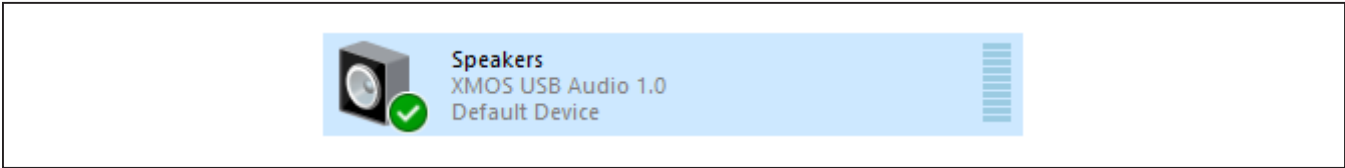

Figure 3. Playback Device
6) Open the Windows’ **Sound** dialog and select the **Playback** tab. A **USB Audio DAC** item, similar to Figure 3, should be listed as an available playback device.